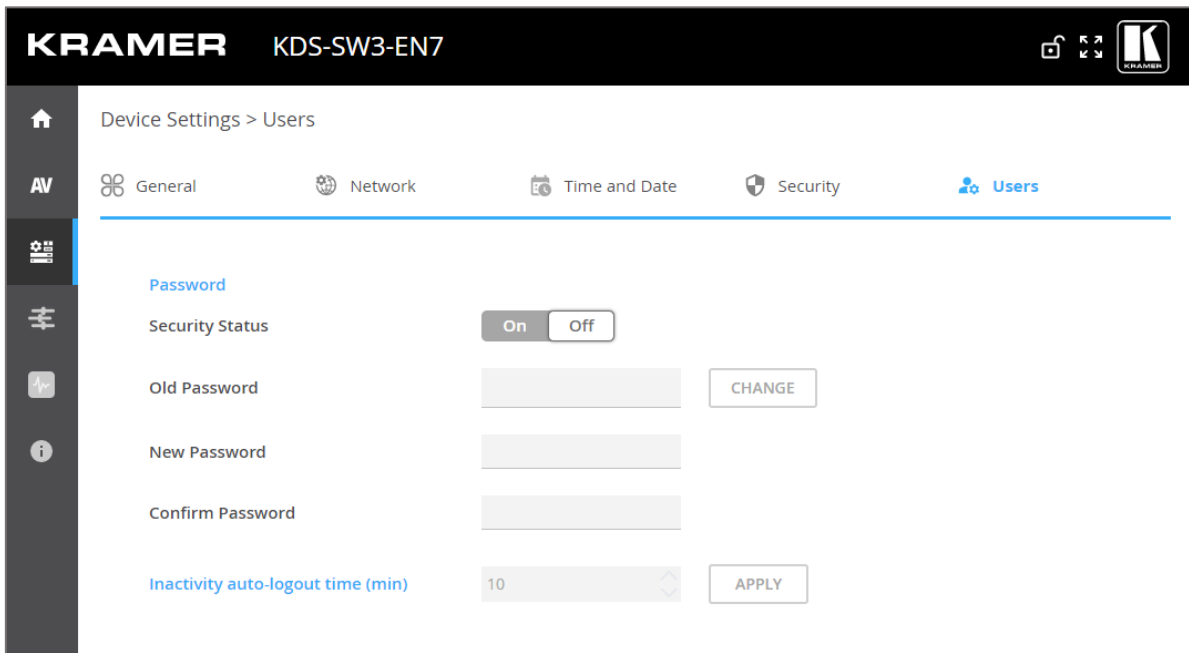

Figure 38: Device Settings Page – Users Tab
2. Select Users tab (see Figure 38).